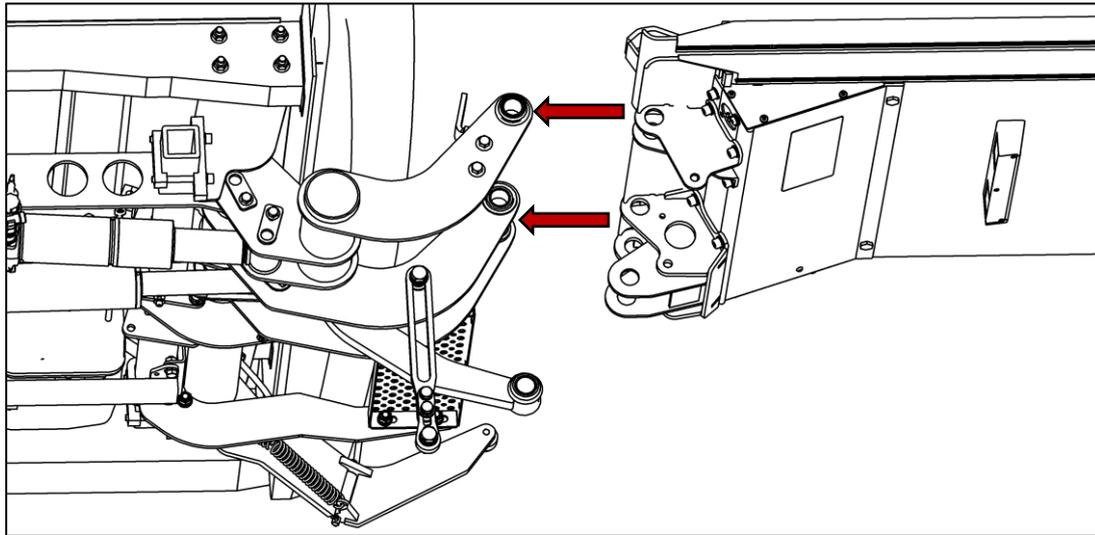

Fig. 59
- Align the top bearing points of the platform (platform attachment points) with the swing-arm bearing points (top attachment points of the lifting gear) (see Fig. 59).